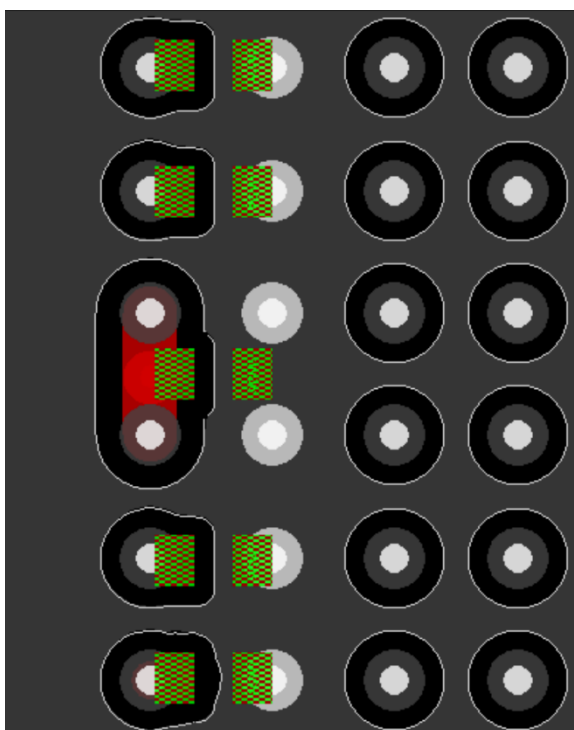

Figure 173. Power Supply Decoupling Capacitor Example
- **Figure 173** illustrates how the 0.1 μF bypass capacitors should be connected to the device. This image shows each supply pin connected to the bottom of the PCB using an in-pad via. One of the supplies uses two input pins (in this case, VSCLK0_1P0). For input using two input pins, it is acceptable to connect them together and to a single bypass capacitor. The capacitors are 0201-size devices that fit directly between the via to the supply ball and the via to an adjacent ground return ball. It is important to follow this procedure to minimize noise coupling between supplies, especially for the supplies that are tied to the observation receivers (VORX0_1P0, VORX1_1P0, VSCLK0_1P0, and VSCLK1_1P0).